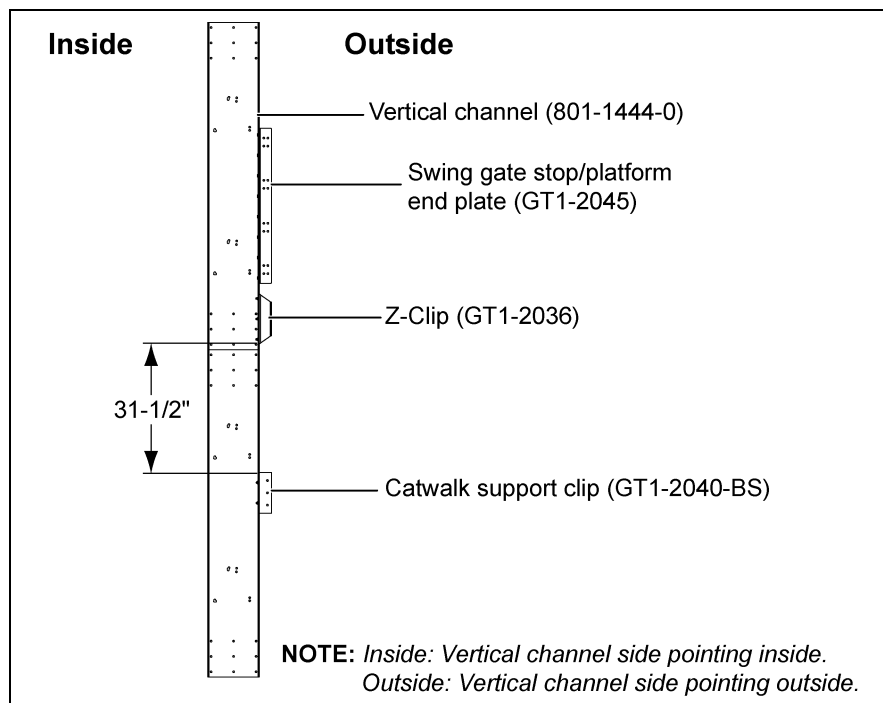
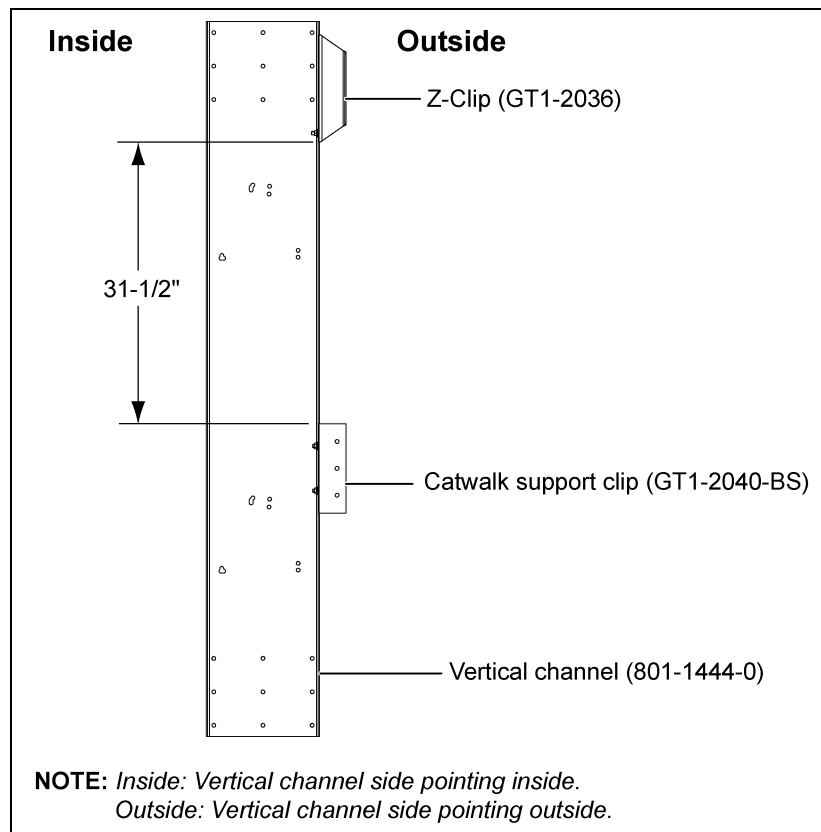

Figure 6H
Figure 6J
2. The distance between the Z-clip and support clip for 23'-4" offset and roof hatch platform is 31-1/2". (See Figure 6H below and Figure 6J on Page 52.)